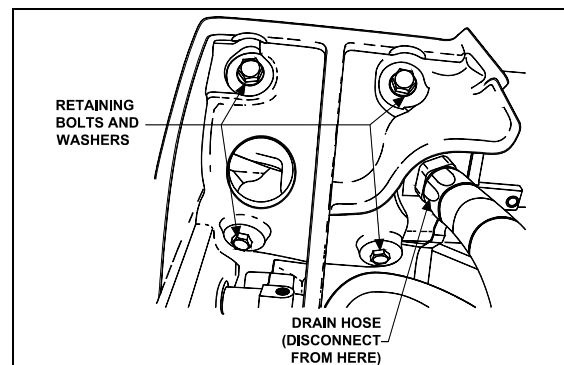

FIGURE 25: ALTERNATOR RETAINING BOLTS AND WASHERS
lines to prevent entry of foreign matter. Disconnect oil drain hose from bottom of alternator (Fig. 25) and tape line to prevent entry of foreign matter.
7. Remove the four bolts and lock washer retaining alternator (refer to fig. 25).